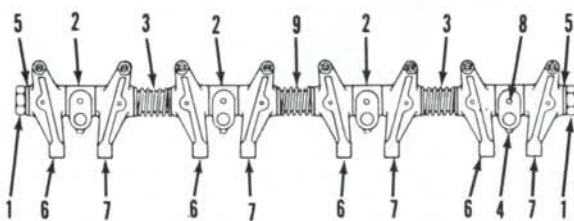

Fig. 81—View showing four-cylinder engine rocker arm assembly. Three and six-cylinder assemblies are basically arranged the same.
With rocker arm assembly removed, remove plugs (1—Fig. 81) from ends of shaft. Remove end locating spring (5), right-hand rocker arm (7), locating screw (8) and rear shaft support (4). Remove remaining rocker arms, locating springs and shaft supports and place them in order on a clean bench.
Be sure oil holes in shaft and rocker arms are open. Install shaft in rear locating support bracket (4—Fig. 81) and secure with locating screw. Peen bracket around screw to lock screw in position, then complete reassembly. Note that right-hand (7) and left-hand (6) rocker arms are installed in pairs at each shaft support with offset ends toward each other as shown in Fig. 81. Intermediate springs (3) are slightly longer than center spring (9).